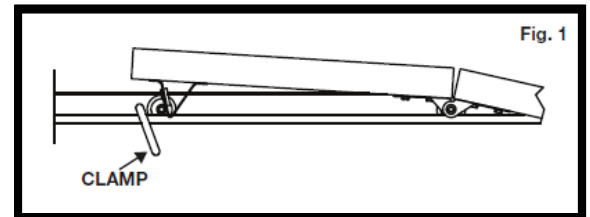
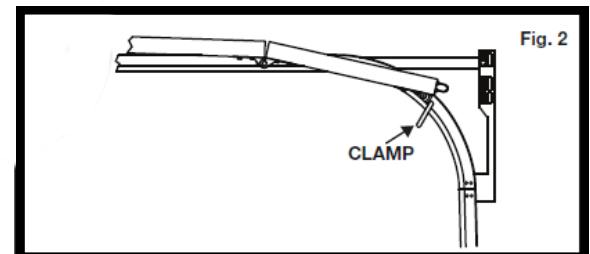

Fig. 1
Fig. 2
1. STEP 1: Unplug garage door opener and manually disconnect opener from the door, if applicable. Open garage door to full open position. Secure door in this position by placing a vice grip or C-clamp above top roller (Figure 1). Place another vice grip or C-clamp below bottom roller (Figure 2) to keep door from moving.